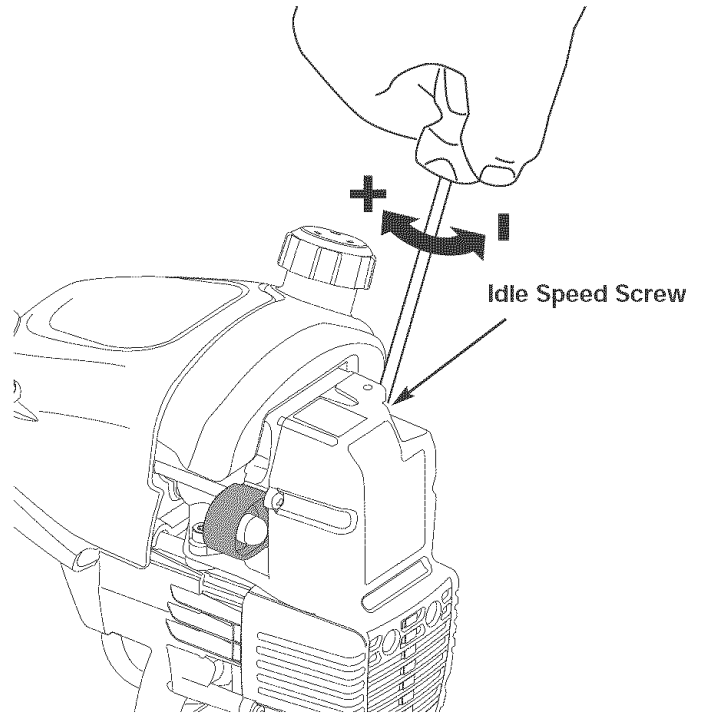

Fig. 40
The idle speed of the engine is adjustable through the air filter/muffler cover (Fig. 40).
2. Release the throttle trigger and let the engine idle. If the engine stops, insert a small phillips or flat blade screwdriver into the hole in the air filter/muffler cover (Fig. 40). Turn the idle speed screw in, **clockwise**, 1/8 of a turn at a time (as needed) until the engine idles smoothly.